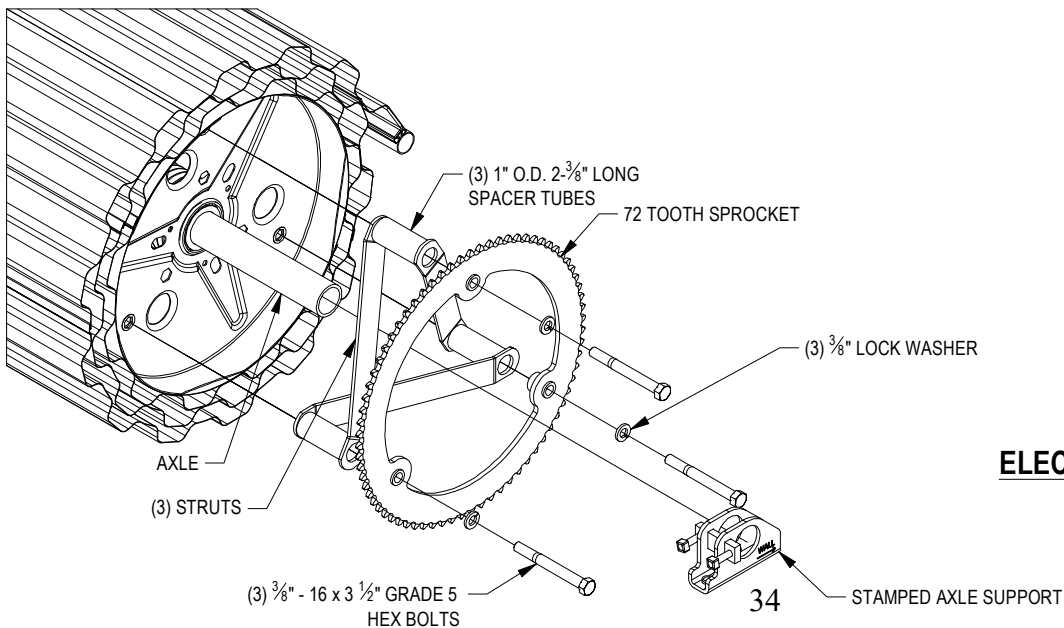

FIGURE 15:
- ▶ Locate 3 each 1" O.D. x 2 3/8" long spacer tubes and struts between 72 tooth sprocket and drum. Attach sprocket with (3) each 3/8" - 16 x 3 1/2" grade 5 hex bolts and 3/8" lock washers.
- ▶ Slide stamped axle support over axle, with arrow pointing toward wall, until approximately 1-3/8" of axle is outside of stamped axle support. **See Figure 15.**